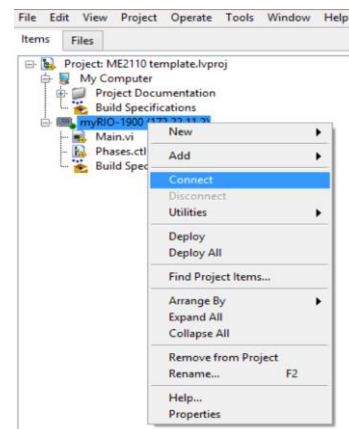

Figure 8 Connect to myRIO in the Project Explorer
12. Right Click on “myRIO-1900 (172.22.11.2)” and right-click Connect (Figure 8) ¹